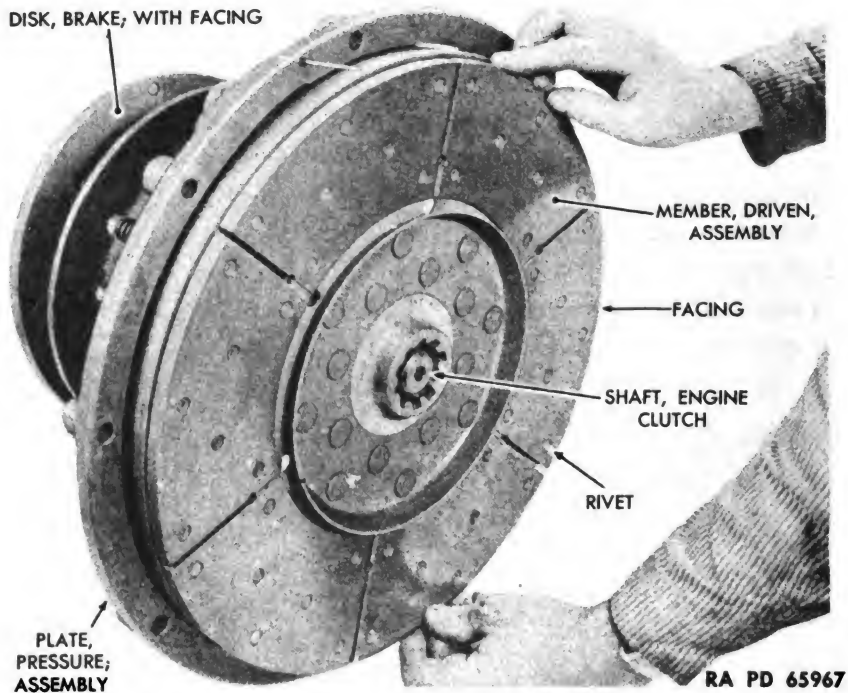

Figure 18 — Lifting Off Engine Clutch Driven Member Assembly
(1) LIFT OFF ENGINE CLUTCH DRIVEN MEMBER ASSEMBLY FROM COMPLETE ENGINE CLUTCH (fig. 18).
(2) REMOVE ENGINE CLUTCH SHAFT AND BRAKE DISK WITH FACING (fig. 18).